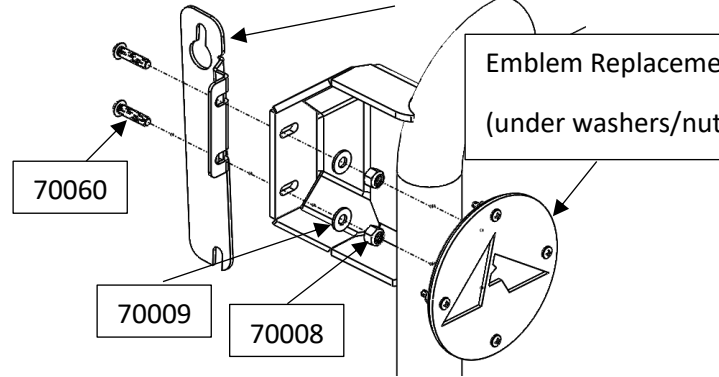

Figure 4: Emblem Replacement and Door Seam Bracket Installation
- c. Use 1/4"-20 x 3/4" bolts for the center bracket, bolting through the door seam bracket, the door seam, the emblem replacement bracket, and base unit (See Figure 4).